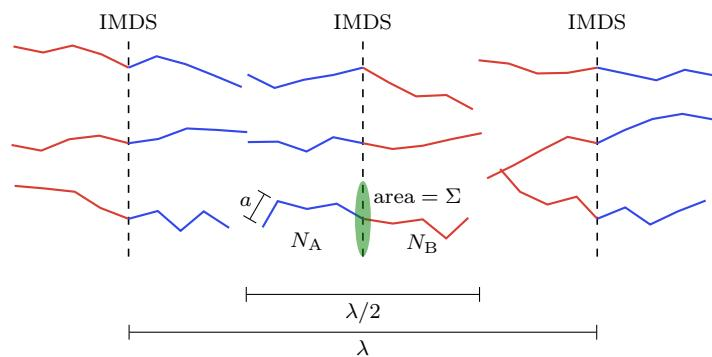

Figure 2.21: Variables describing microdomain spacing.
- In Figure 2.21 as drawn, $N_A = N_B = 4$.